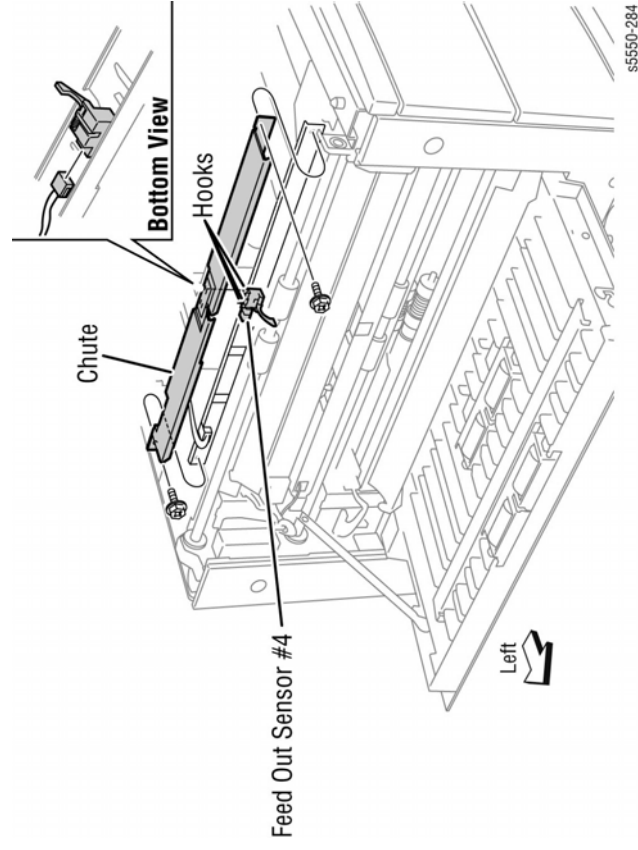

Figure 1 Removing the Tray 4 Feed Out Sensor #4
5. Release the hooks securing the Feed Out Sensor #4 to the Chute as shown in Figure 1.